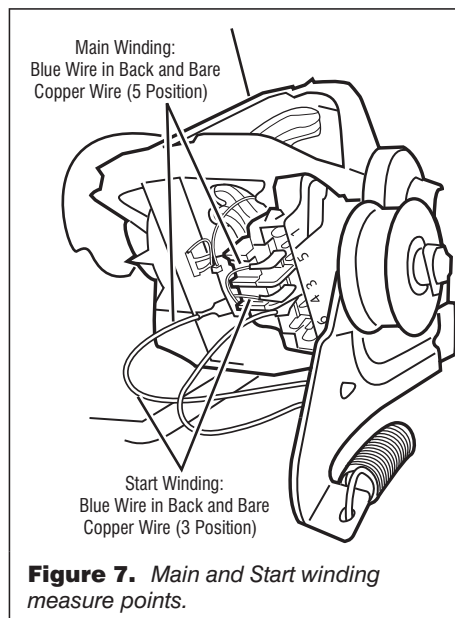

Figure 7. Main and Start winding measure points.
7. Using figure 7, check for the resistance values of the motor's Main and Start winding coils as shown in the following table.